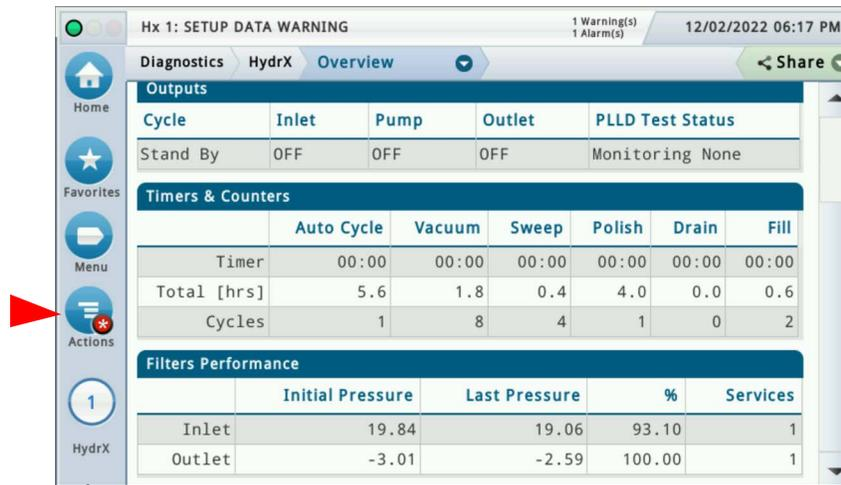

Figure 20. Example HydrX Diagnostics Overview Screen - Page 2
5. Scroll down to view the **Filters Performance** tab (see Figure 20) which displays: